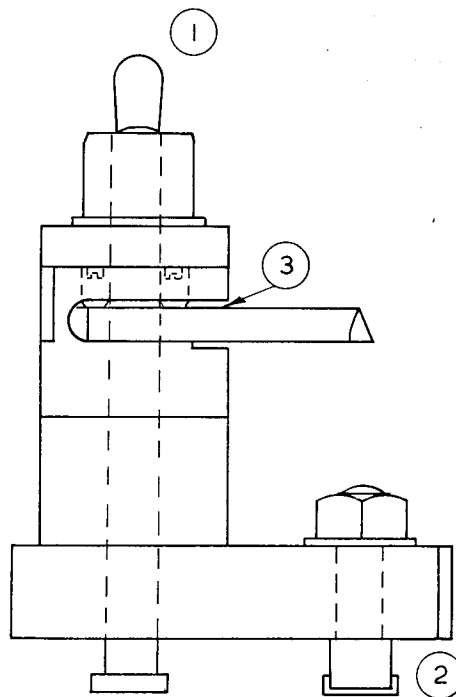
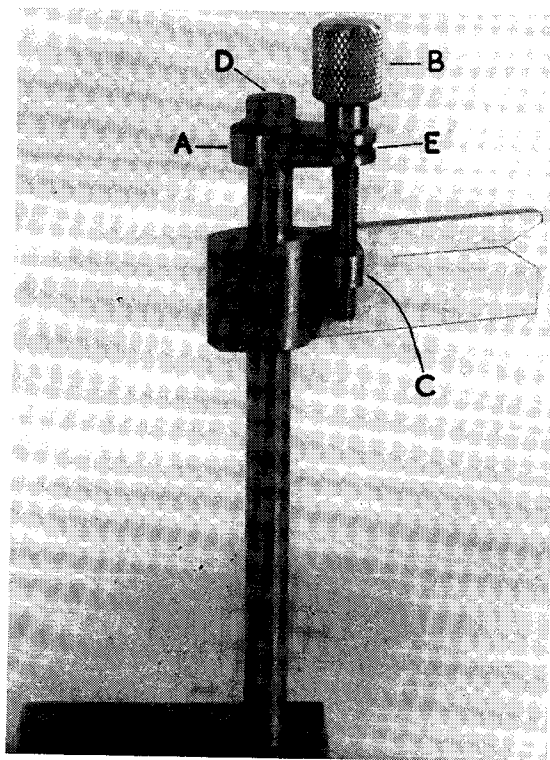

Fig. 1
Fig. 3: The modified tool height gauge.
Assuming a small batch is required, start off with a strip of $\frac{3}{4}$ in. x $\frac{1}{8}$ in. mild steel, allowing about $\frac{1}{2}$ in. length for each coupling. Scribe a line along the full length of the strip straight down the middle, and across the strip at $\frac{1}{2}$ in. intervals. The intersection of these lines marks the centre of the couplers (Fig. 1); drill through each $1/16$ in. dia. Next, using the side of the holes as a guide, scribe another set of lines across the strip $1/32$ in. to the left of the centre of the holes. Then mark two more lines along the length of the strip, $17/64$ in. above and $\frac{1}{4}$ in. below the centre of the holes. Centre punch and drill through at each intersection with a $1/16$ in. drill. This completes the marking out and accuracy at this stage ensures that each coupling will mate with any of the others (fingers crossed).
shape and another simple jig is required. This can be cut from an odd piece of 1/8 in. thick angle. Clamp each blank in turn to the jig, bend as shown in the sketch and cut to length (Figs. 3 and 4).
The first job was to alter the hand clamping nut so that its handle (1), Figs. 1 and 2, projected upward at an angle of 30 deg. from the horizontal. The washer between the turret and the nut was made to a thickness such that the handle pointed away from the chuck when the nut was fully tightened down. And then came a minor exasperation. The head of the securing tee-bolt had a habit of getting fixed cross-wise across the end of the cross-slide tee-slots, and when I had aligned it to enter the slot it was an even chance that the clamping handle would be pointing directly at the chuck instead of away from it, according to which way round the bolt head had entered the slot.
A recess was turned in the strip, 13/16 in. long by 1/4 in. deep, to take the head of the front tee-bolt. The strip was assembled into position upon the tool-post as shown at (2) in Figs. 1 and 2, and was drilled through 5/16 in. to take the front tee-bolt, using the existing bolt-hole in the body as a guide. The hole in the bolt-head for the aligning-screw was used as a guide for a No. 34. With this arrangement, both tee-bolts are kept correctly aligned in the tool-post body, and the square steel strip keeps the post in exact alignment on the cross-slide. The device can be slid straight into position literally in seconds, ready for immediate action.
boring-bar tool-bit, cut down to fit. So a groove was milled in one of the unoccupied faces of the turret, $\frac{7}{8}$ in. long by $\frac{1}{4}$ in. deep, opening into the groove carrying the knife tool-bit and ending $\frac{3}{16}$ in. from the face carrying the parting-tool. The groove was placed $\frac{1}{2}$ in. from the bottom of the turret face, slightly below the lathe centre-line height, so that the boring-bar tool bit can be shimmed-up until its tip is at centre-height. This arrangement was used because, as the facing-tool in a back tool-post is upside-down, sharpening the tool raises its line of action. Therefore allowance must be available for lowering the tool-shank. Two No. 26 holes were drilled, $\frac{5}{8}$ in. apart, $\frac{1}{8}$ in. from the turret face, from the top of the turret face right down into the tool groove, and tapped out 2 BA, to take two Allen grub-screws (3), Figs. 1 and 2.
A minor disadvantage of the original set-up was the fact that the parting-tool blade was secured in place by a square keep-plate, which covered the heads of the fixing-screws which held the other tool-bits. Therefore the keep-plate had to be removed to get at these screws to free the tool-bits for sharpening. As is well-known among amateurs, a well-aligned parting-tool blade is worth its weight in rubies. Therefore, in order to avoid disturbing a good set-up, the keep-plate was modified to the shape shown in Fig. 3.
The sides of the plate were cut away to leave a nose $\frac{5}{16}$ in. long by $\frac{1}{4}$ in. wide, and a No. 26 hole was drilled $\frac{1}{8}$ in. from the tip and on its centre-line. This hole was tapped out 2 BA to take a single Allen grub-screw. Adjusting this screw enables the existing cap-head screws to be tightened to bring the keep-plate down squarely upon the parting-tool blade. Only one extra hole need be drilled into the keep-plate. This is shown at (4), Fig. 3, and it is made just large enough to allow an Allen key to be inserted to engage the inner facing-tool clamping grub-screw. It will be seen from Fig. 3 that the cut-away flanks of the keep-plate clear the knife-tool clamping-screw heads. By the above-described modifications, any of the tool-bits can be removed and replaced without disturbing the others.
Top right, Fig. 1: The original tool height gauge.
The height gauge in its original form is seen in Fig. 1 and as modified in Fig. 2 and Fig. 3. The modification comprises a bracket A supporting an adjusting screw B. The latter engages a nut C set in the blade of the height gauge itself so that when the adjusting screw is turned the blade is raised or lowered as required. In order to do so, however, a circlip E must be set in the bracket A to locate the adjusting screw. The bracket by the way is held in place by the 4 BA hex-head screw seen in the illustrations.